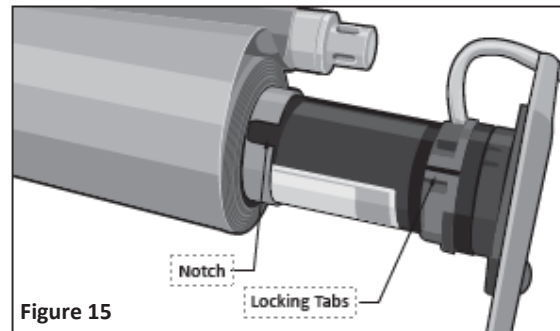

Figure 15
22. Slide the motor into the end of the roller bar, with the motor aligned with the notch cut in the end of the roller bar. See **Figure 15**.